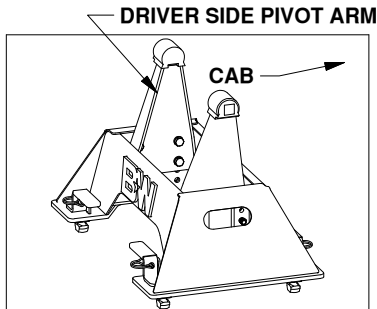
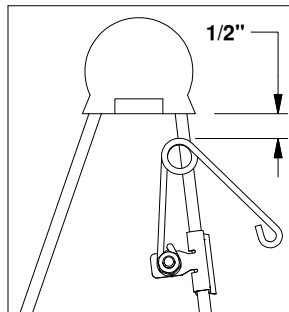

Figure B3: View of base.
Figure B4: Driver
2. **Attach kit.** Locate the flange which will be closest to the truck cab on the driver side pivot arm, see Figure B3. The clip should be placed so that when the spring's coil is in the line with the edge of the arm there will be 1/2" of clearance between the bottom of the polyurethane bushing and the top of the spring, see Figure B4. Drive the clip securely onto the flange with a hammer.